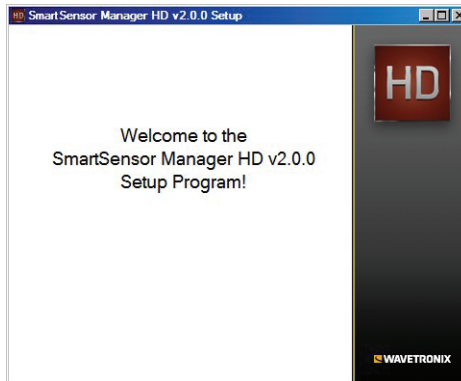

Figure 3.1 - SSMHD Setup Wizard
- 6 Once you've downloaded the file, double-click on it. Opening it executes a setup program that will copy all the necessary files to your hard drive and place icons in the Start menu and on the desktop of the PC or laptop (see Figure 3.1).